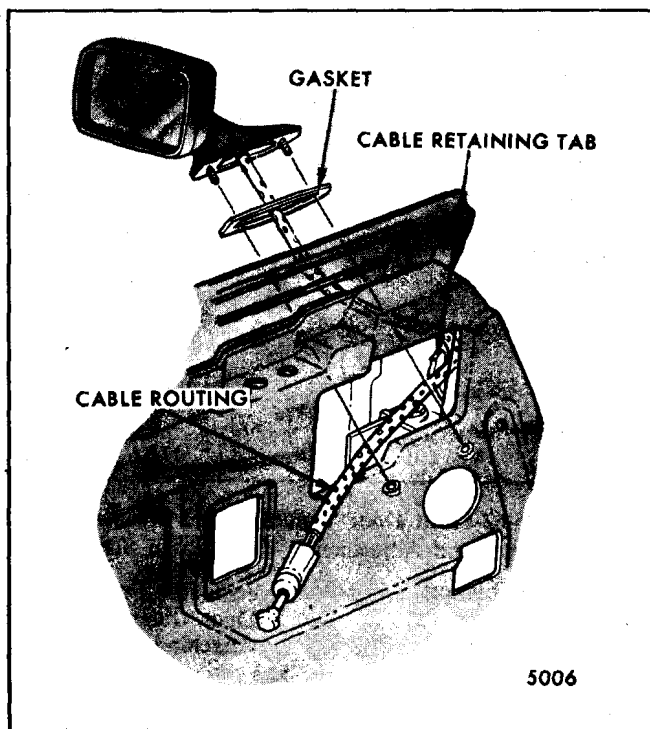
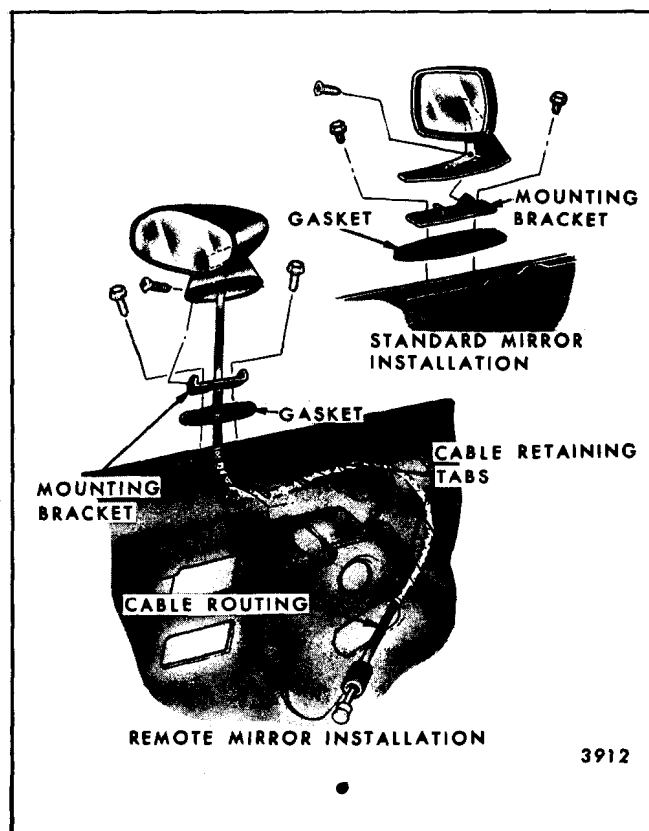

Fig. 6-59-Door Outside Remote Mirror Removal - Chevrolet and Pontiac "A" Styles
Fig. 6-60-Door Outside Remote Mirror Removal "B, C, E and F" Styles, Except Cadillac - "F" Styles Shown, "B, C and E" Similar
1. Remove door trim assembly and peel inner panel water deflector back sufficiently to gain access to remote mirror cable. Then, on ventless styles, detach remote cable from retaining tabs on inner panel reinforcements (Refer to Figure 6-59 for "A" styles and Figure 6-60 for "F" styles).
2. On Chevrolet and Pontiac "A" styles, remove mirror base to door outer panel stud nuts (Figure 6-59) and remove mirror and cable assembly from door.
(Figure 6-60). Then, remove mirror and cable assembly from door.
1. Remove upper portion of door trim assembly as described in Section 13 of this manual. Then, detach remote cable from retaining tab on inner panel reinforcement (Figure 6-60).
2. Remove attaching screw in base of mirror and mounting bracket to door outer panel attaching screws (Figure 6-60). On all styles, except Cadillac. On Cadillac styles the mirror is retained to the outer panel by stud nuts similar to Chevrolet and Pontiac "A" styles (Figure 6-59). Remove mirror and cable assembly from door.